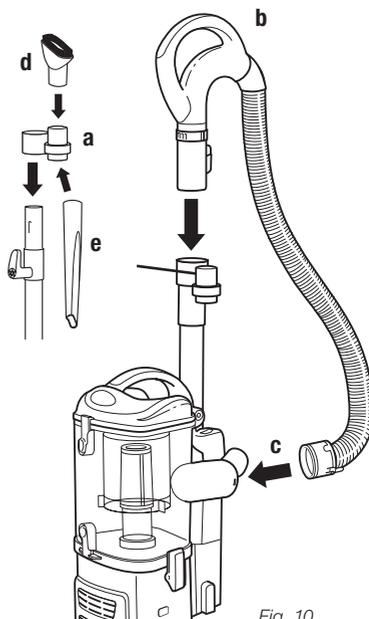

Fig. 10
- 4 Slide the accessory holder **(a)** positioned opposite the upper cord wrap, over the extension wand. Align the tab with the groove and push down. **(Fig. 10)**
- 5 Push the handle **(b)** onto the top of the extension wand until you hear it click into place. **(Fig. 10)**
- 6 Insert the end of the stretch hose **(c)** into the connector on the back of the *Lift-Away* canister. **(Fig. 10)**
- 7 Store the dusting brush **(d)** and the crevice tool **(e)** on the mounts of the accessory holder. **(Fig. 10)**